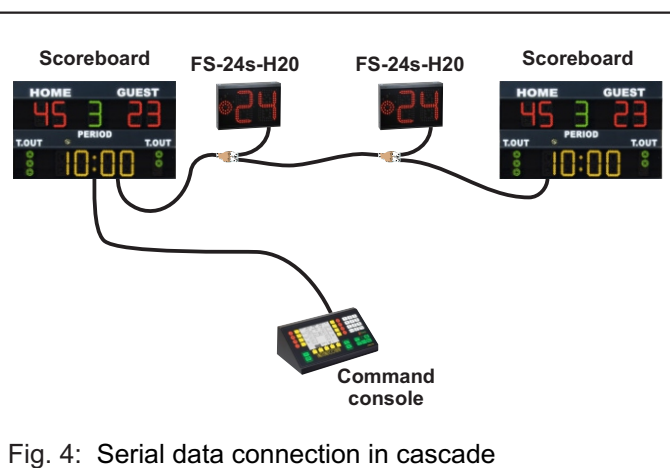
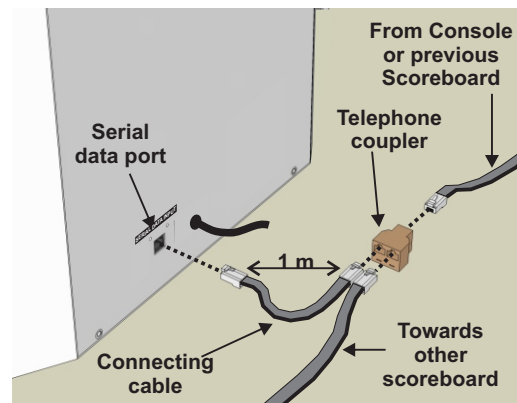

Fig. 4: Serial data connection in cascade
Fig. 6: Connection with telephone coupler
2. Distributed connection (see Fig. 4, Fig. 6). Connections are carried out in cascade, from one scoreboard to the next. Please note that the interruption of a cable will cause some scoreboards to switch off.